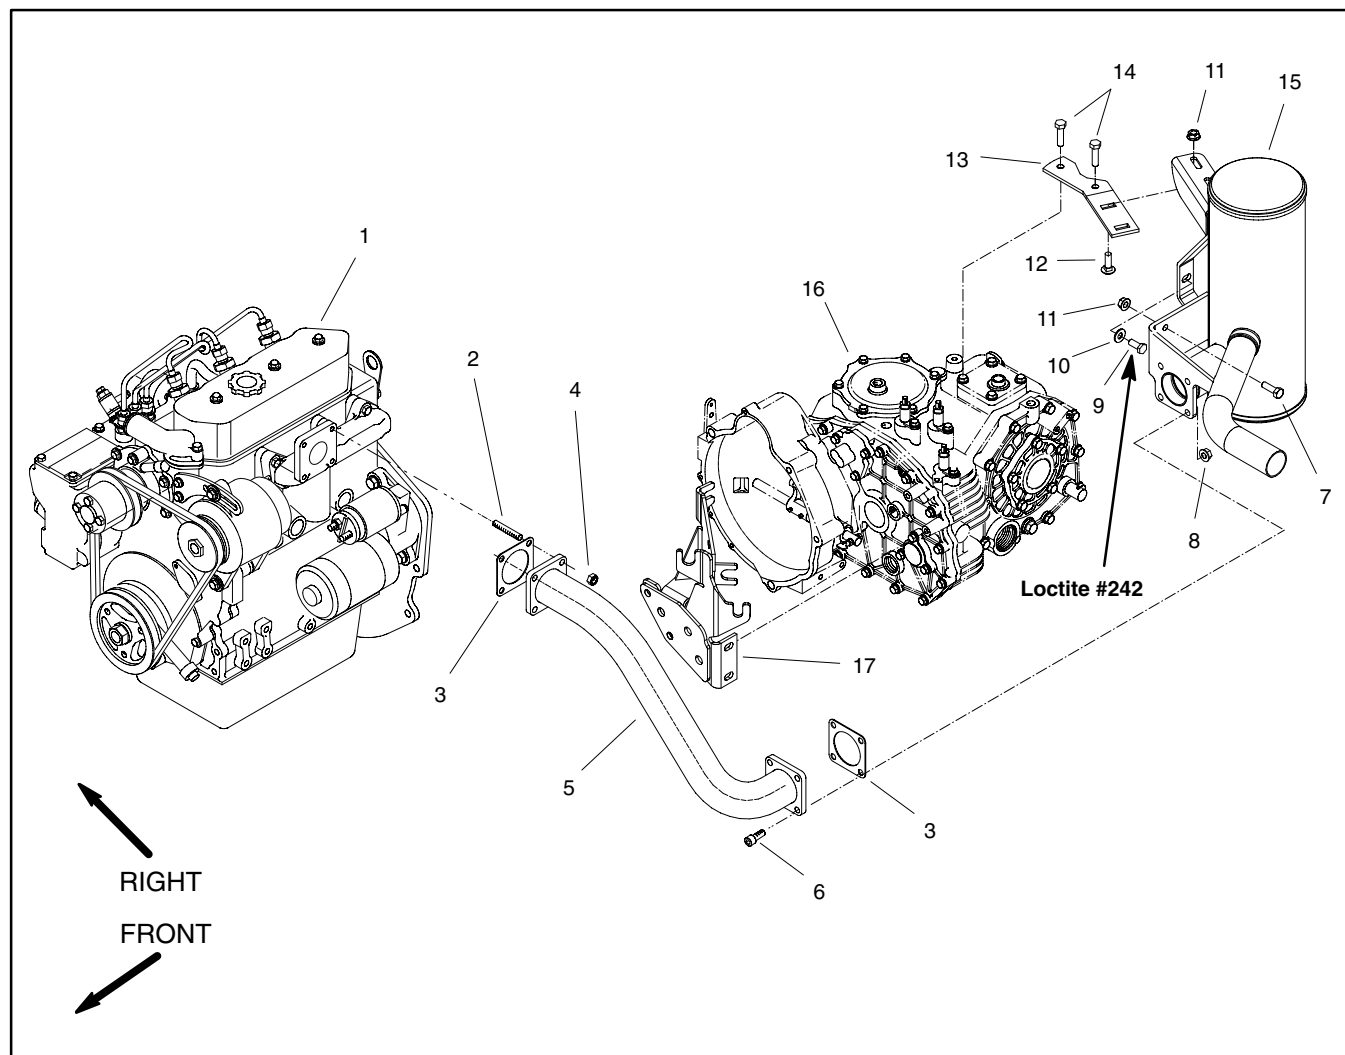

Figure 10
Removal (Fig. 10)
3. Remove exhaust system components as needed using Figure 10 as a guide.
Installation (Fig. 10)
2. If cap screw (item 9) was removed, apply Loctite #242 (or equivalent) to threads during installation.
3. Using Figure 10 as a guide, fit all exhaust components to vehicle before tightening any fasteners. When securing exhaust, tighten fasteners in the following order:
- A. Hex nuts (item 4) that secure exhaust manifold to engine.
- B. Cap screw (item 9) with washer (item 10) that secures muffler to transaxle.
- C. Socket head screws (item 6) and flange nuts (item 8) that secure muffler to manifold.
- D. Cap screws (item 7) and flange nuts (item 11) that secure muffler to shift cable mount bracket.
- E. Carriage bolts (item 12) and flange nuts (item 11) that secure muffler to mount plate.